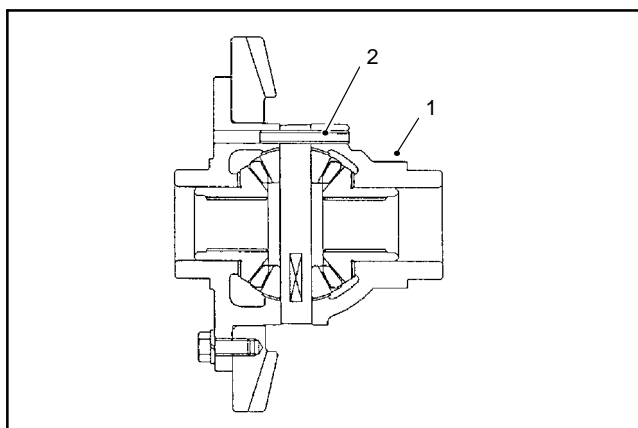

Figure 32
6. Drive the spring pin from the differential case with a punch and hammer. Discard the spring pin (Fig. 32).